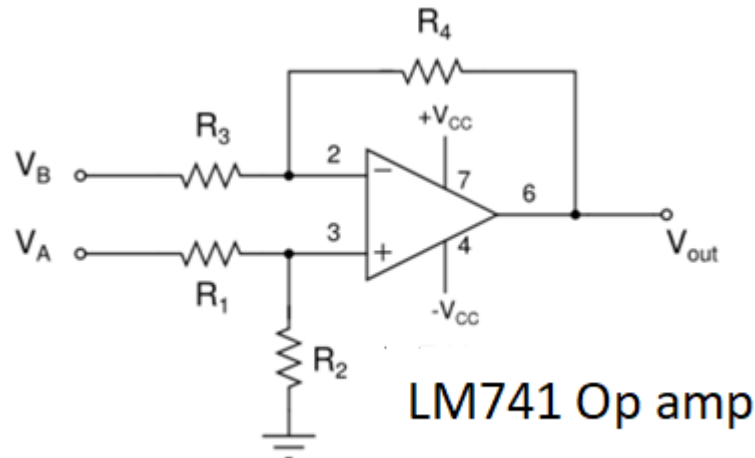

Fig. 3.3 Single-op amp difference amplifier (for measuring V_{out} variations with load)
Fig. 3.3 gives the circuit diagram of a single-op amp difference amplifier. The voltage gain of the amplifier is 10. We want the difference amplifier to measure the small variations in the LM7805 variations with reference to the nominal V_{out} value (of +5V). With $V_A = V_B$, the difference amplifier output will be zero. V_{out} of the difference amplifier will amplify any voltage difference between V_A and V_B by a factor of 10. In this case this will amplify the difference of LM7805 output with reference to its nominal value.
1. Wire the op amp difference amplifier circuit of Fig.3.3.